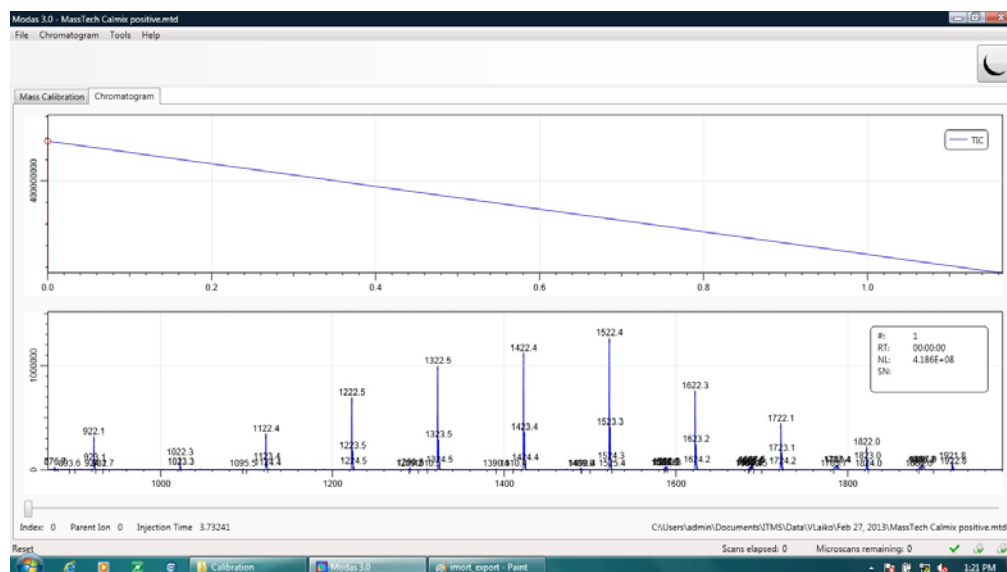

Figure 7.3. ESI mass spectrum of the calibration mixture.
For the proper mass calibration, it's critically important to acquire a high-quality and unsaturated spectra. The user must run the data acquisition over a long enough time to make sure that the chosen ion source generates a stable MS signal. It's recommended to acquire the data for the mass calibration with the AGC off. In order to achieve the highest resolution, gradually decrease the injection time (IT). If IT is too large, the peaks in the mass spectrum will be broad and the mass-shift will be skewed. After the proper IT is selected, set large enough number of microscans (typically 30-100) to obtain the high-quality spectrum. This spectrum can be either recorded on the hard drive or directly used for calibration as RT spectrum. Stop the data acquisition. Figure 7.3 represents a good quality ESI spectrum of MassTech's calibration.